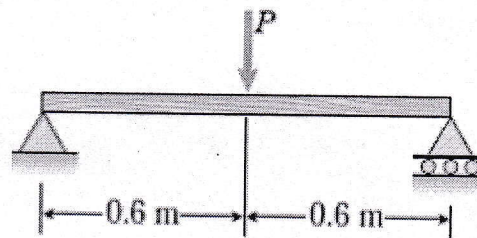

fig.12
- c) A simply supported beam  $AB$  of span  $1.2\text{ m}$  is subjected to point load  $P = 20\text{ KN}$  at  $C$  as shown in fig.12 The portion  $CB$  has double  $MI$  as that of remaining. Draw  $M/EI$  diagram with all values and slope under load  $P$  and determine slope at  $A$ . [4]